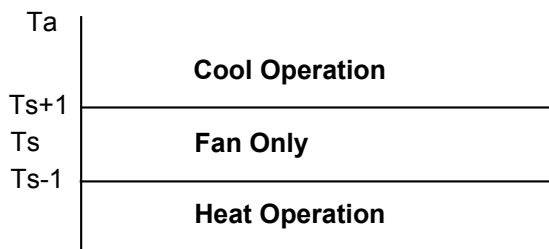

Fig. 8-2-13
- (1) As shown in Fig. 8-2-13, the operation mode (COOL, DRY, HEAT) is selected according to the Preset temperature and room temperature when the operation has started.